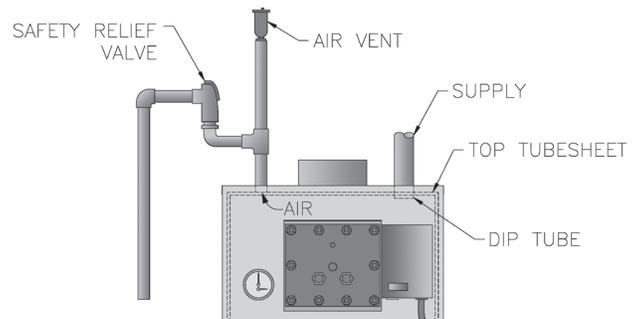

Figure 3-2: Air Vent and Safety Relief Valve Installation Detail
- B. **INSTALL SAFETY RELIEF VALVE.** See Figures 3-2, 3-3 and 3-4. Safety Relief Valve must be installed with spindle in the vertical position. Installation of the relief valve must be consistent with ANSI/ASME Boiler and Pressure Vessel Code, Section IV.
- C. **AIR VENT.** An air vent or purge must be incorporated in the system to easily remove air from the boiler when the system is filled. The boiler has a built in dip tube which works with the air vent to clear the boiler of air. Improper application of the air vent will cause steaming in the boiler. See Figures 3-2, 3-3 and 3-4.